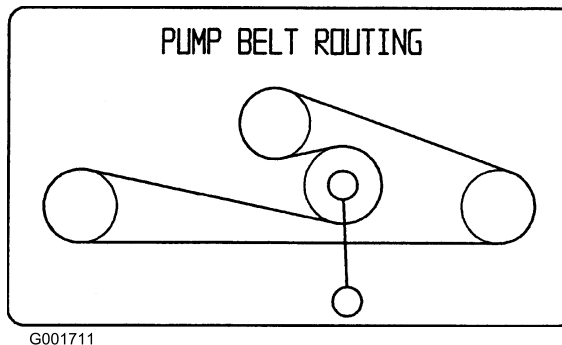

Figure 56
pulleys (Figure 56). Remove belt between pulleys.
- Install new belt around engine and hydro pump pulleys (Figure 56).
- Pull spring loaded idler down and align below traction belt. Release the pressure on the spring loaded idler (Figure 56).